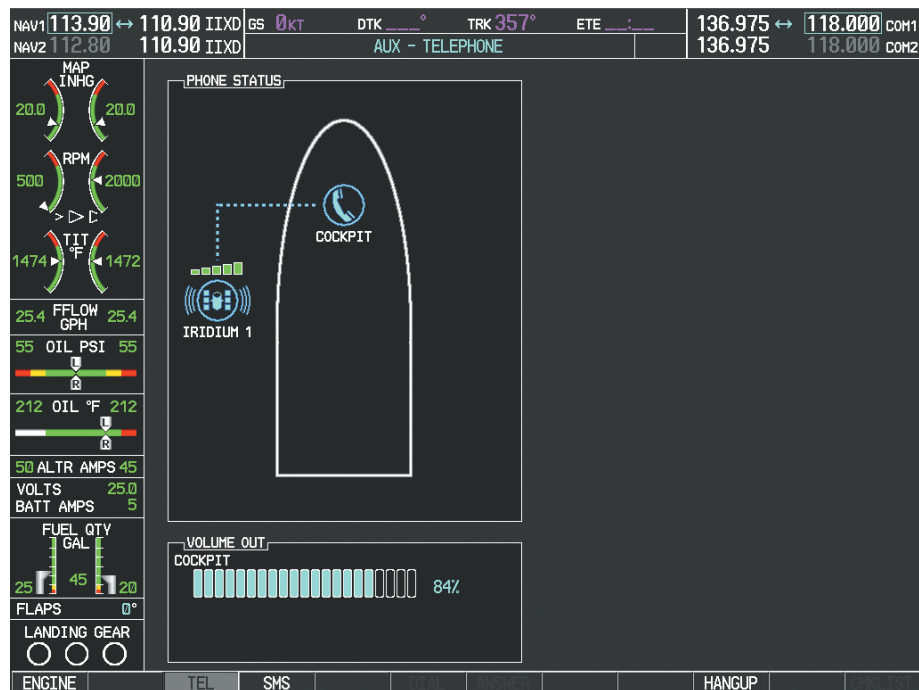

Figure 8-81 System is Making the Connection
- 5) Press the **ENT** Key. The system will begin calling the number, as in Figure 8-81.